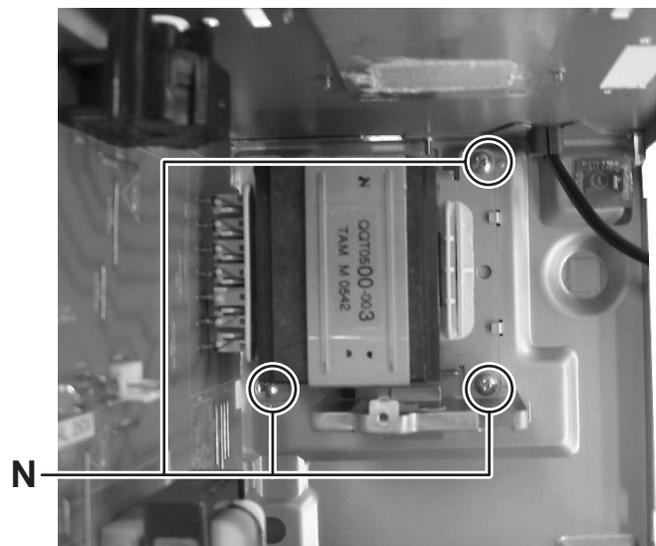

Fig.11
- (4) Remove the three screws **N** attaching the power transformer. (See Fig.11)
3.2.7 Removing the feed motor (See Fig.11 to 13)
- (1) Remove the yellow wire from solder part **q** of the CD servo board from upper side of traverse mechanism. (See Fig.11)
- (2) Remove the white wire from solder part **r** of the CD servo board. (See Fig.11)